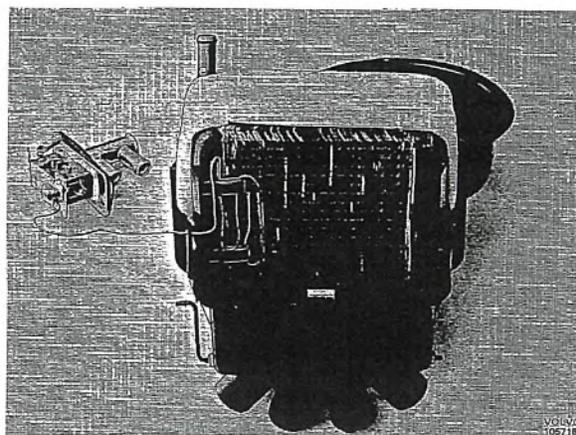

Fig. 8-55. Placing of thermostat capillary tube
2. Install the thermostat capillary tube, see Fig. 8-55.